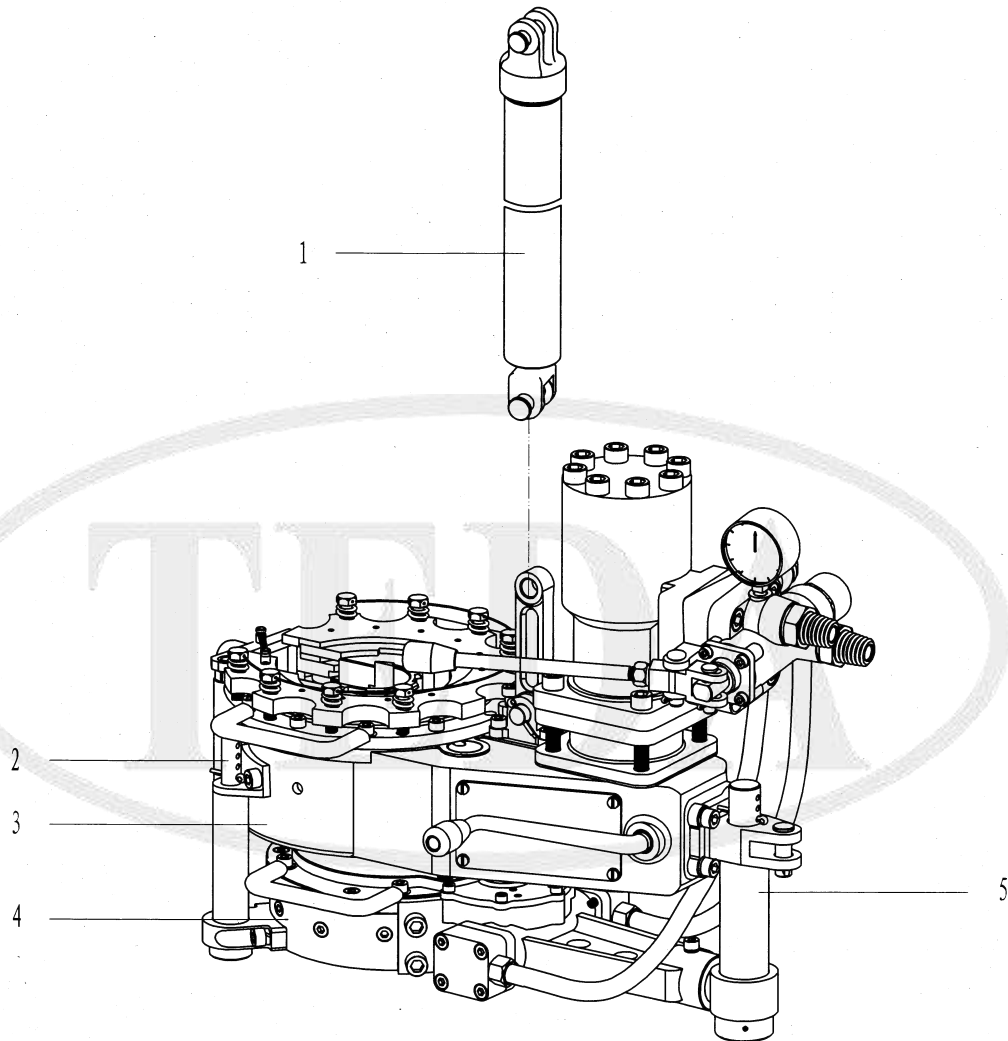

Fig. 3 Assembly
9.1 Assembly and parts list(Fig.3,Table 1)